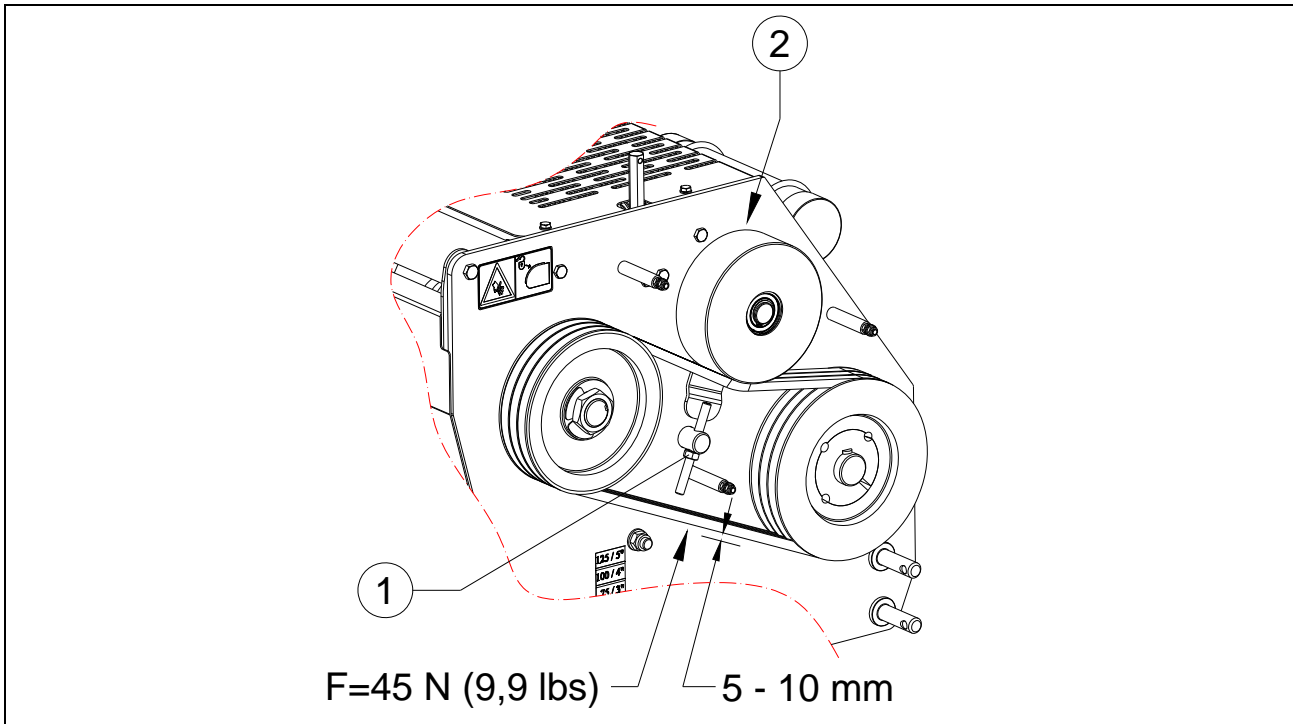

Fig. 15
2. Apply a force of 45 N (9.9 lbs.) on the centre of the bottom part of the belt, see Fig.15.
5. Unscrew the nut (2) behind the tension roller.
6. Turn the nut (1) until you reach the right tension.
7. Tighten the nut (2) behind the tension roller.